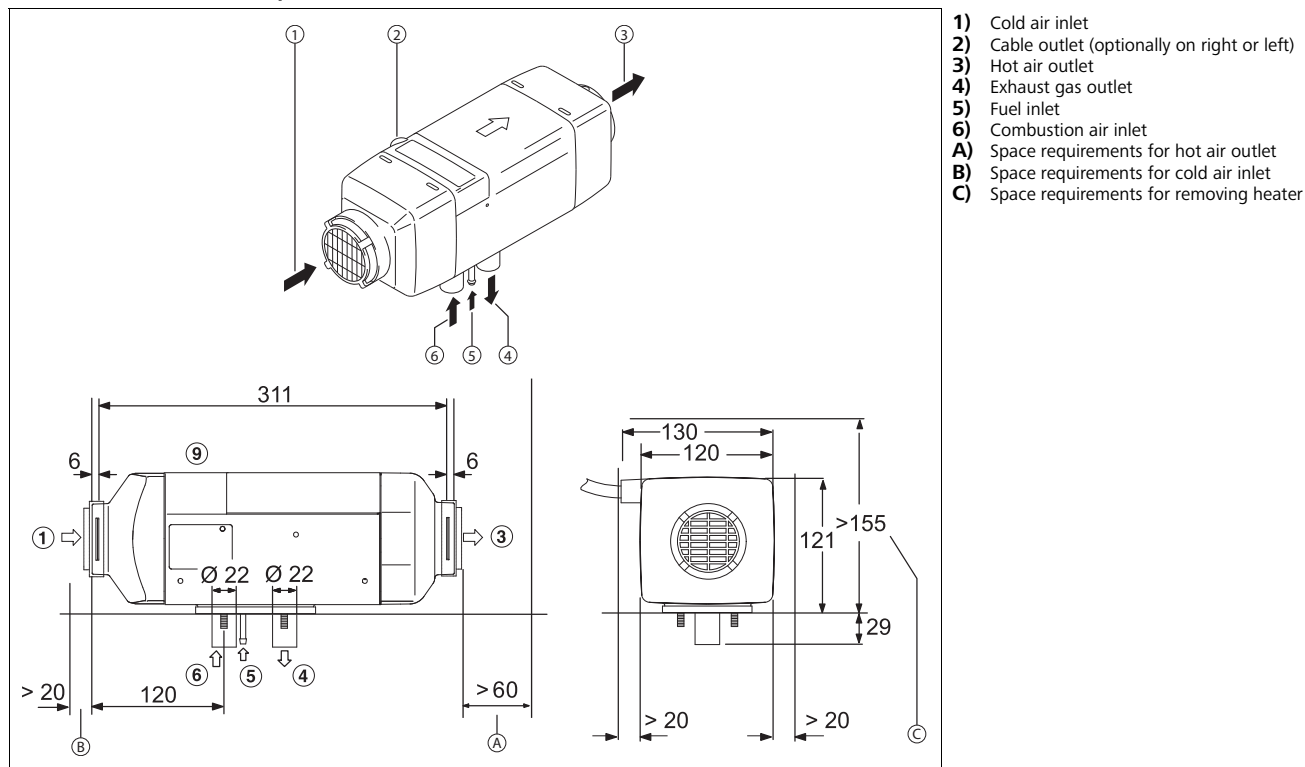
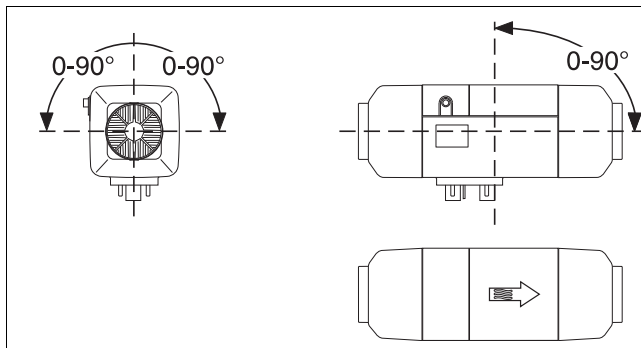

Fig. 4 Dimensions and space requirements [mm] Air Top 2000 ST
Fig. 8 *Permissible installation positions of diesel-operated air heaters*
see Fig. 4 and Fig. 8
- Do not exceed inclination angle (see Fig. 8).